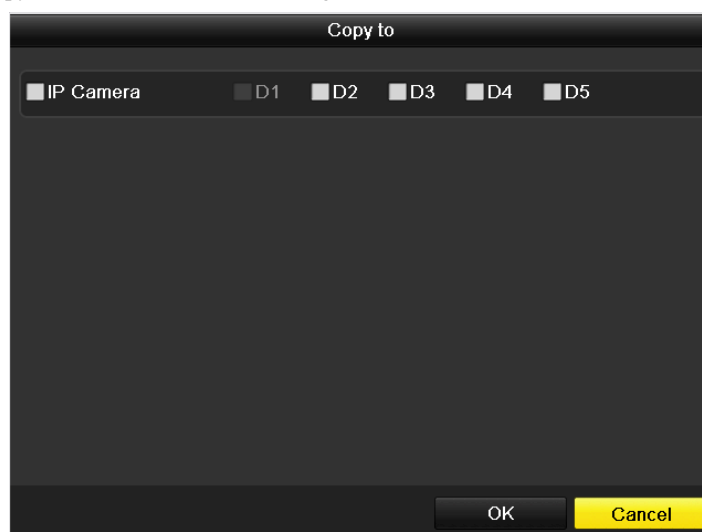

Figure 10.19 Copy Settings to Other Camera(s)
5. You can copy the quota settings of the current camera to other cameras if required. Click the **Copy** button to enter the Copy Camera menu, as shown in Figure 10.19.